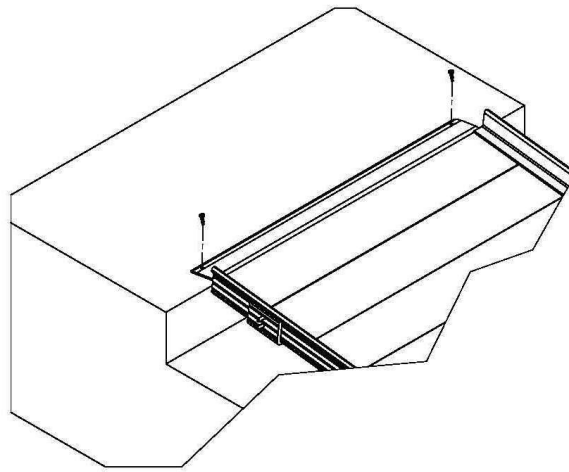

FIG. 3.18
- 3.6.1.1. Secure upper transition by installing the 1/4" self-drilling stainless steel screw through each hole (FIG. 3.18).